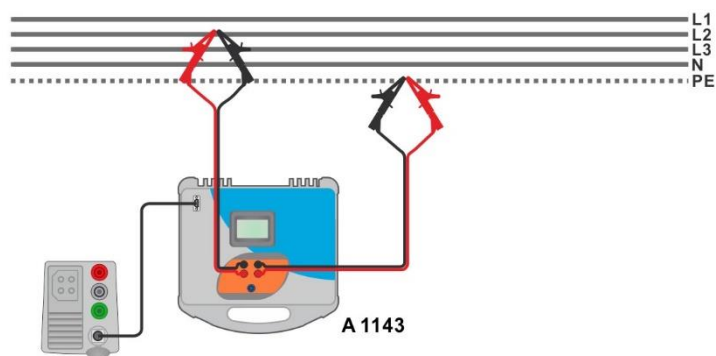
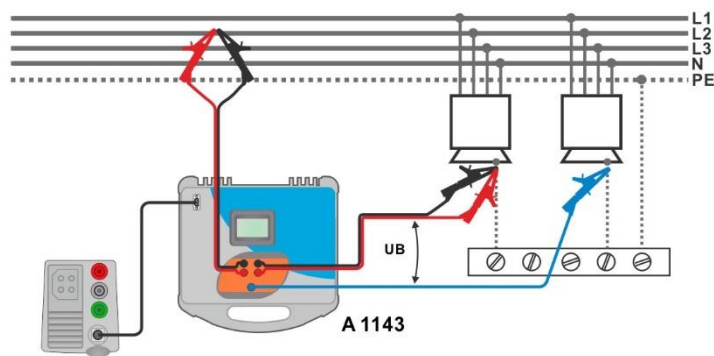

Figure 7.51: High precision loop impedance measurement – Connection of A 1143
Figure 7.52: Contact voltage measurement – Connection of A 1143
- Connect test leads to the object under test, see **Figure 7.51** and **Figure 7.52**.